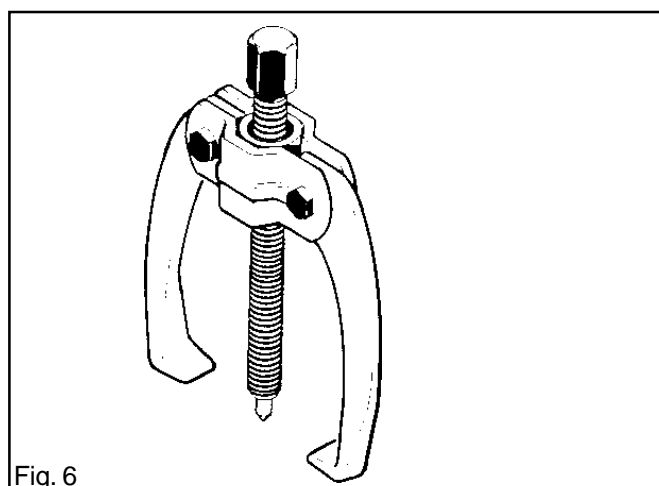

Fig. 6
8. If the crankshaft bearing should remain on the crankshaft remove it with puller 504 90 90-01. See fig. 6.